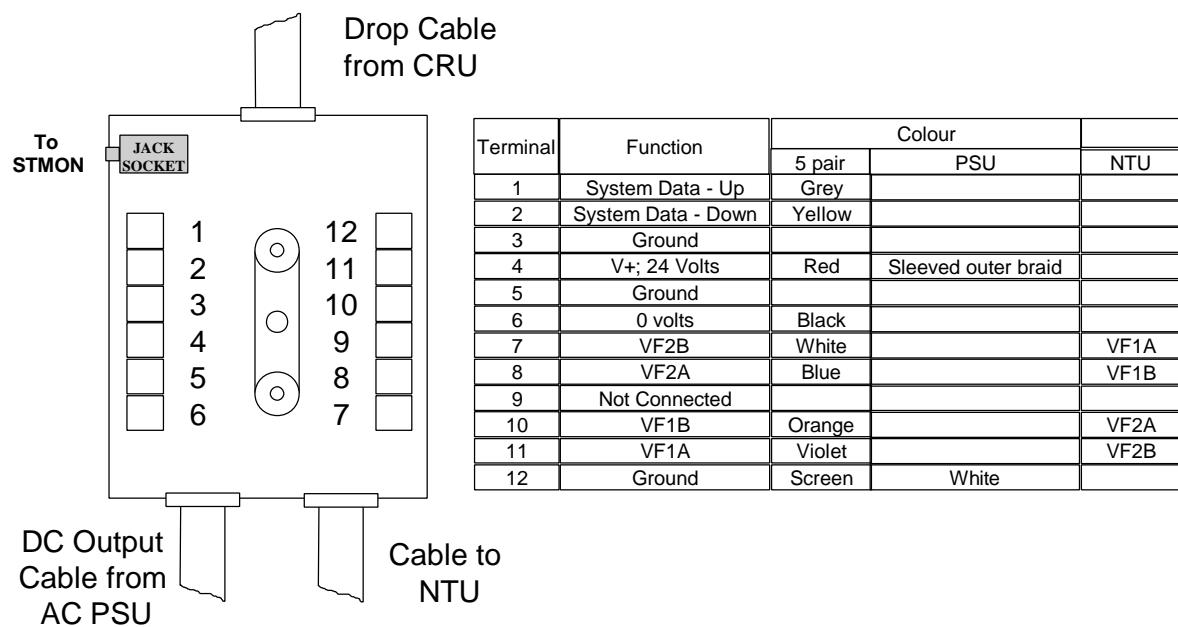

Figure 19. Junction Box 5 pair Termination ST-V2 (Type 1 PSU)
3. Strip and terminate the wires of the drop cable as shown in Figure 19.